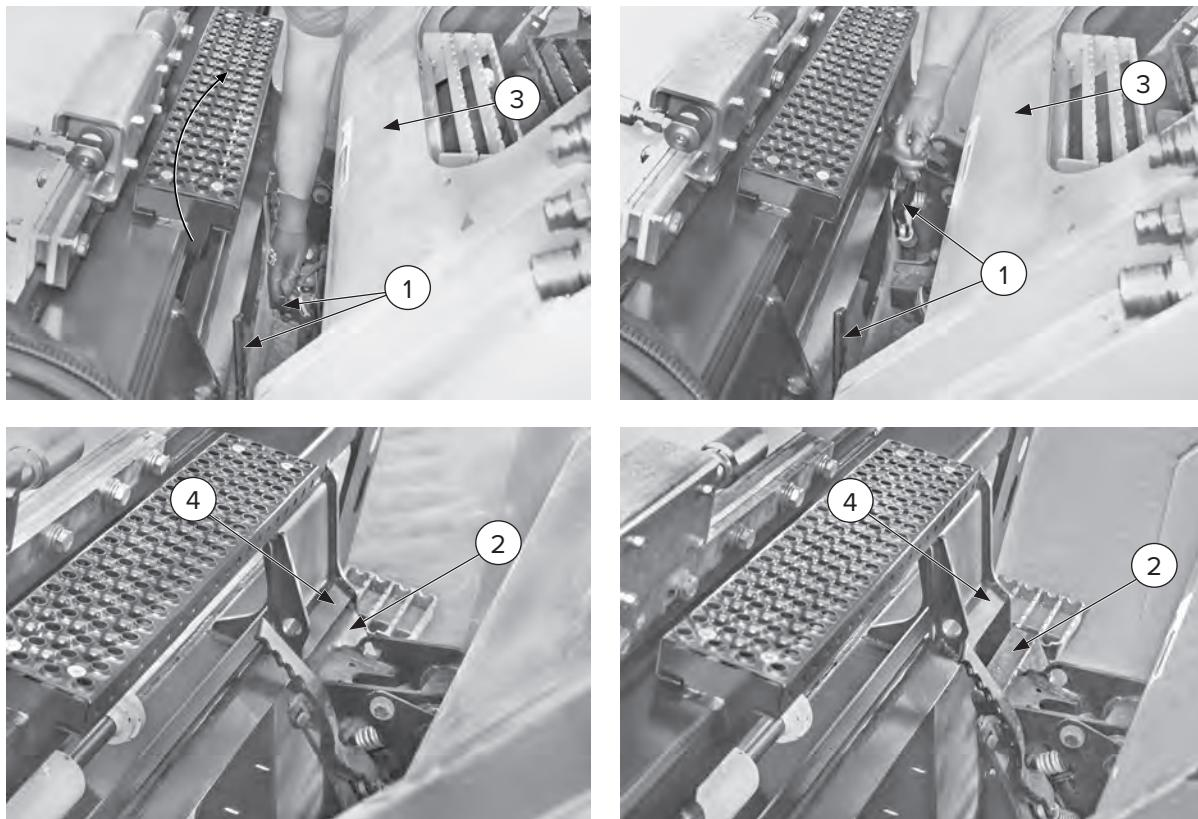

Figure 6
4. To disconnect the hoses with the flat-faced quick couplers: turn the ring nut [Figure 6, Item 3], so that the notch [Item 4] lines up with the spherule [Item 5], push the ring nut [Item 3] towards the spherule [Item 5] to disconnect the quick coupling.
4. Pull the two (2) levers [Figure 6, Item 1] towards you to release the quick coupling locking pins.